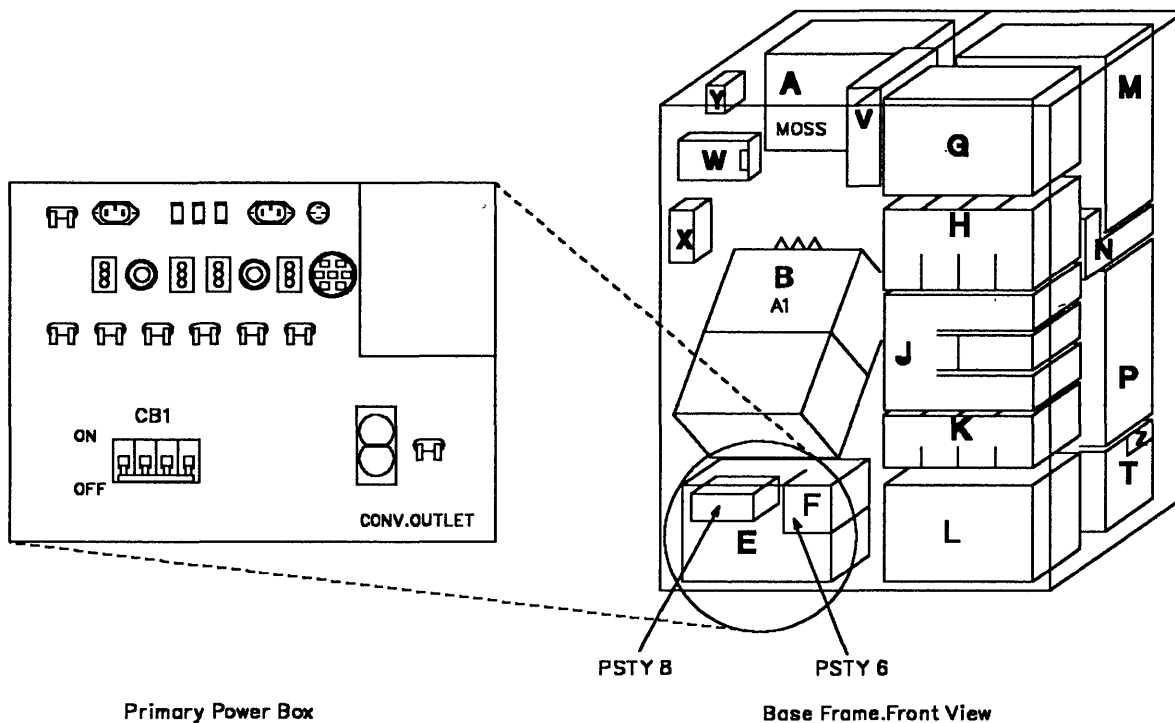

Figure 5-124. Primary Power Box in Frame 01
2. Check that the 'Power Control' display is set to local (3) on the control panel. If yes, go to step 5; if not, proceed with step 3.
3. Press the 'Power Control' key until (3) is displayed in the Power Control window.
7. Switch the CB1 OFF. Refer to Figure 5-124 on page 5-120 for the location of CB1.
3. Switch CB1 OFF. Refer to Figure 5-124 for the location of CB1.